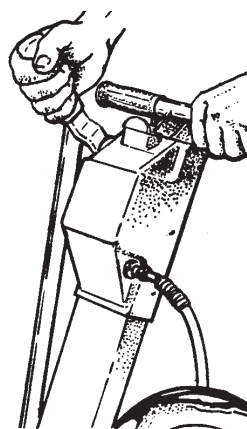

Figure 5
- 3 Insert control link into notch and slide collar to pin. Raise sanding drum with control lever. (Figure 5 & 6)